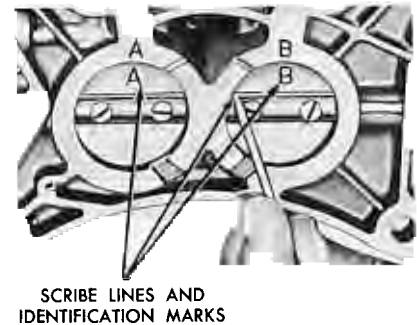

FIG. 19—Throttle Plate Removal
11. If it is necessary to remove the throttle plates, lightly scribe the throttle plates along the throttle shaft, and mark each plate and its corresponding bore with a number or letter for proper installation (Fig. 19).